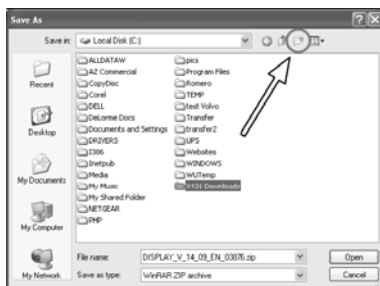

Figure 3-20
9. The folders contained in your local drive are displayed in the main window. Click the **Create New Folder** icon (as shown circled below). A New Folder will appear in the main window underneath the other folders (see figure 3-20). Type **X431MASTER Downloads** and press **ENTER**.